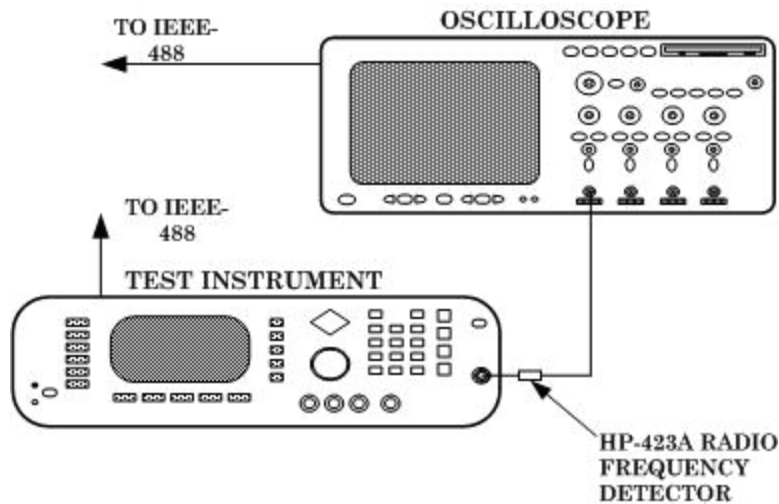

Figure 6. Pulse modulation hookup.
- (1) Connect equipment as shown in figure 6 below.